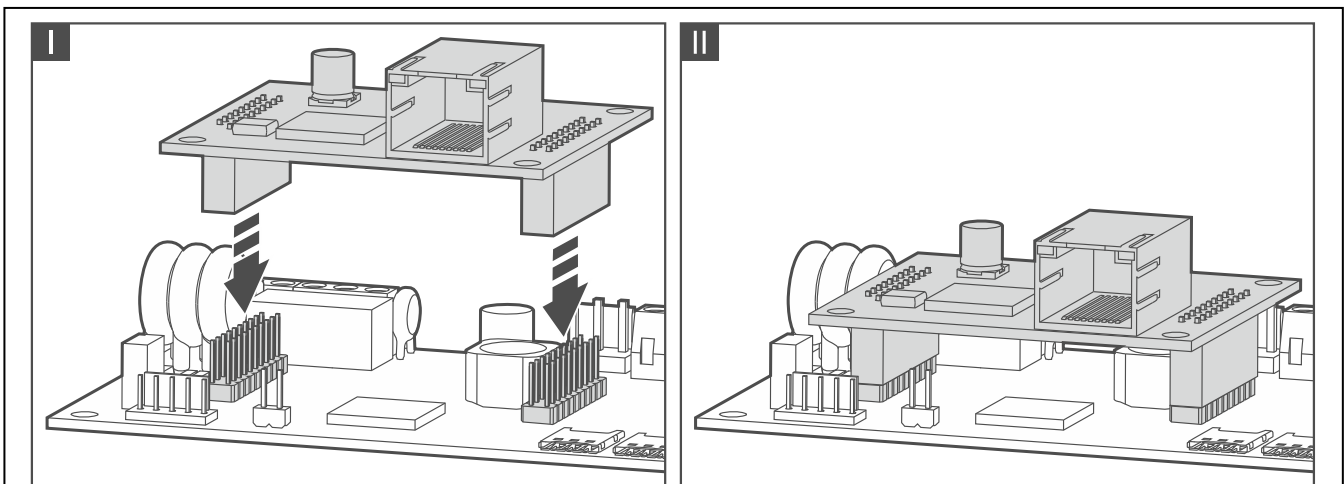

Fig. 19. Installing the GSM-X-ETH module on GSM-X module electronics board.
3. Install the GSM-X-ETH Ethernet module in the connectors on the GSM-X module electronics board (Fig. 19).